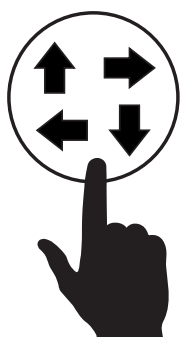

Figure 108. Mode Change Button
1. On generator #1, press the **Mode Change button** (Figure 108) on the touch display.